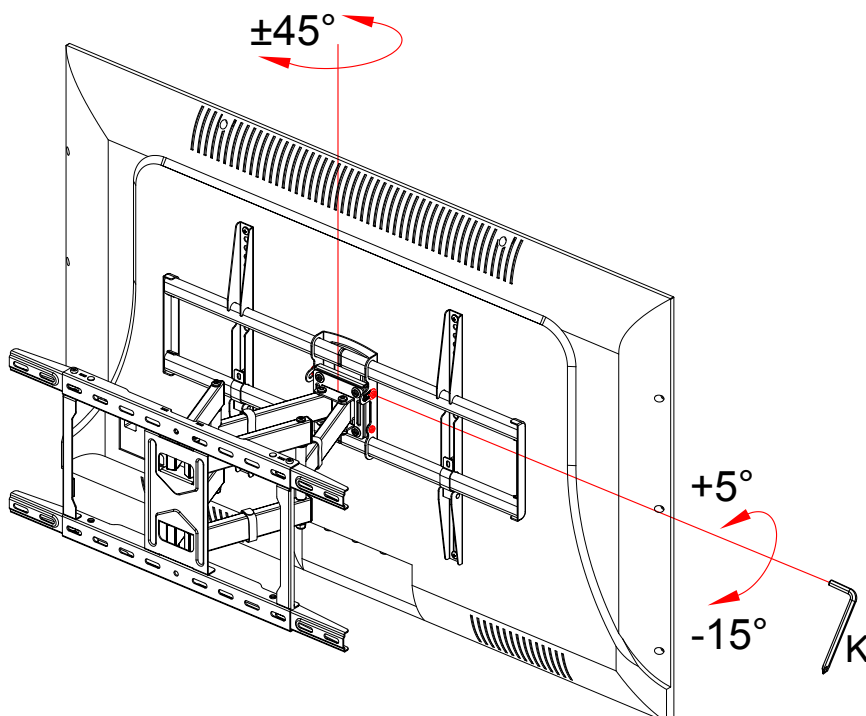

Figure 9
Step 8: You may need loosen the screws to tilt TV to your desired angle, please remember to fasten the screws tightly after adjustment. (Figure 9)